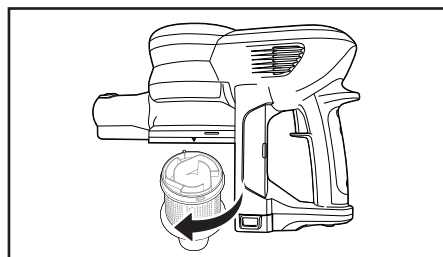

Fig. 4
2. Turn the internal cylinder clockwise to remove from the vacuum (Fig. 4).